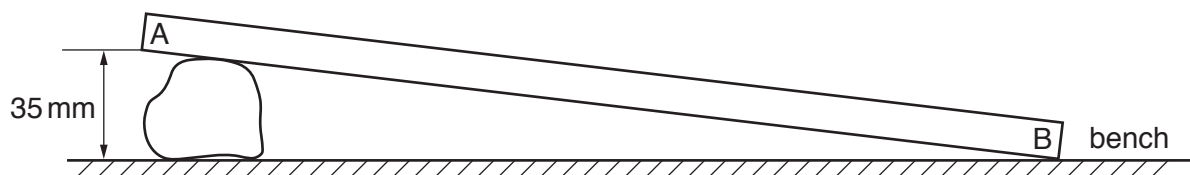

Fig. 2.4
2. A large piece of Blu Tack of approximate mass 80g should be moulded into a cylinder of approximate height 40mm and diameter 30mm. The wide end of the track should be pressed firmly into the Blu Tack so that the height of the bottom edge of the rule is 35mm as shown in Fig. 2.4.
At the changeover the supervisor must restore the apparatus to the configuration shown in Fig. 2.4 with the wide end A of the track attached to the Blu Tack. The supervisor should check that the distance shown in Fig. 2.4 is 35 mm. It may also be necessary to have a replacement glass ball.